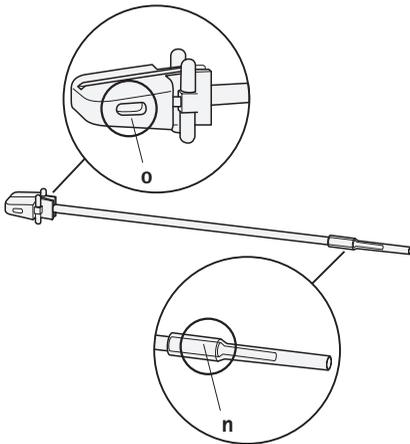

Fig. 4 Preparing the chisel guide
- ▶ Adjust the safety stop to the central position **o**, see Fig. 4.